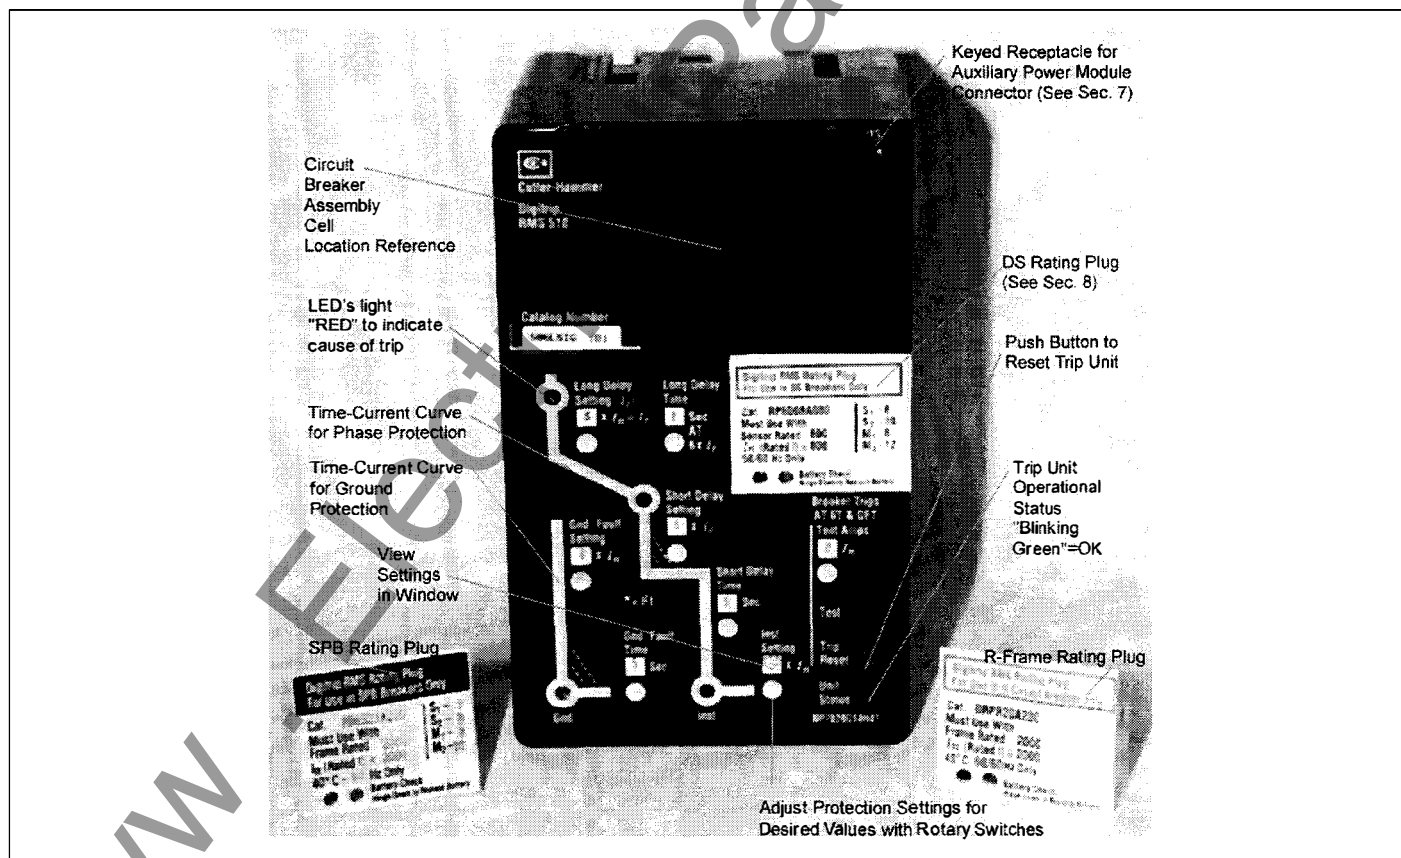
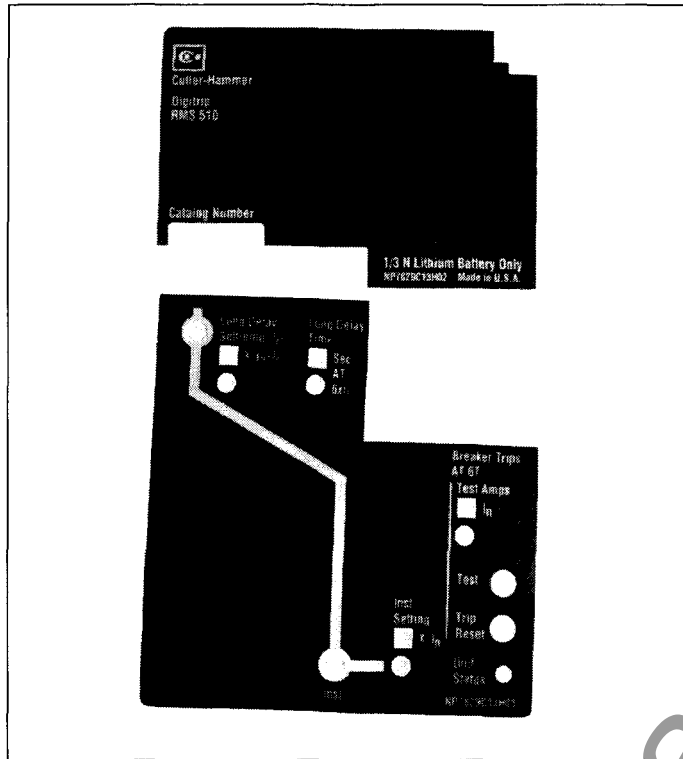
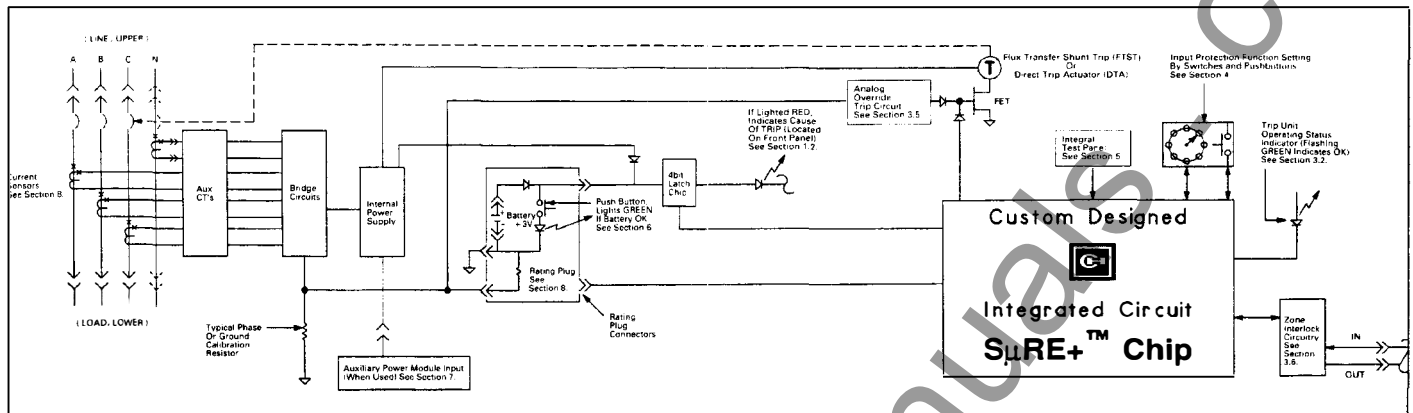
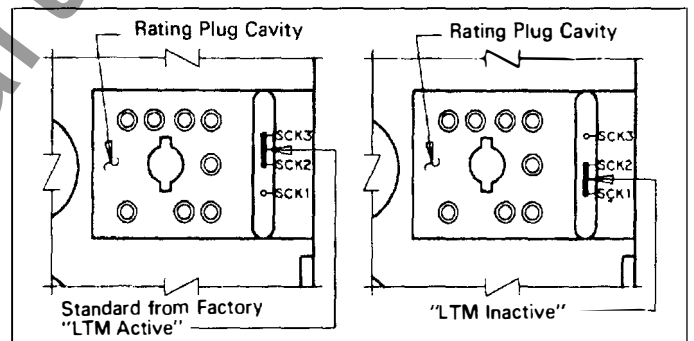

Fig. 1 Digitrip RMS 510 Trip Unit Model LSIG with Rating Plug
Fig. 2.1 Long Time/Instantaneous Protection (LI)
Fig. 3 Digitrip RMS 510 Block Diagram with Breaker Interface
Fig. 4.2.1 Long Time Memory "LTM" Jumper
The Digitrip RMS 510, illustrated in Fig. 1, is a custom application specific integrated circuit based trip unit suitable for use in types DS and DSL low voltage AC power circuit breakers and type SPB Systems Pow-R circuit breakers and Series C[®] R-Frame molded case circuit breakers.
The Digitrip RMS 510 Trip Unit is available in six different types. Each trip unit may be equipped with a maximum of five phase and two ground (time-current) adjustments to meet specific application requirements. The types of protection available for each model include the following, which are illustrated in Figures 2.1 through 2.6:
The Digitrip RMS 510 Trip unit provides three basic functions: Protection, Information and Testing. A typical trip unit and rating plug are illustrated in Fig. 1. Individual product instruction leaflets referenced in Section 9.0 illustrate typical Digitrip RMS Trip Units installed in specific breakers.
The trip unit employs the Cutler-Hammer Inc. custom designed integrated circuit S_μRE + chip, which includes a microcomputer to perform its numeric and logic functions. The principle of operation is described by the block diagram shown in Fig. 3.
The LEDs, shown in Figs. 1 and 2.1-2.6, on the face of the trip unit, light "RED" to indicate the reason for any automatic trip operation. As indicated in Figs. 2.1-2.6, each LED is strategically located in the related segment of the time-current curve depicted on the face of the trip unit. The reason for trip is identified by the segment of the time-current curve where the LED is lighted "RED". Following an automatic trip operation, the back-up battery, continues to supply power to the LEDs as indicated in Figs. 3 and 6. To check the status of the battery, see Section 6.
Push the "Trip Reset" button shown in Fig. 1, to turn "Off" the LEDs following a trip operation.
A green colored LED, as shown in Fig. 1, indicates the operational status of the trip unit. Once the load current through the circuit breaker exceeds approximately 10% of the frame/current sensor rating, the green LED will flash "On" and "Off" once each second, to indicate the trip unit is energized and operating properly.
Zone Selective Interlocking (or Zone Interlocking) is available (see Fig. 3) for Digitrip RMS Trip Units having Short Delay and/or Ground Fault protection. Zone Selective Interlocking provides the fastest possible tripping for faults within the breaker's zone of protection, and yet also provides positive coordination among all breakers in the system (mains, ties, feeders and downstream breakers) to limit the outage to the affected part of the system only. When Zone Interlocking is enabled, a fault within the breaker's zone of protection will cause the RMS DIGITRIP trip unit to:
Prior to placing circuit breaker in operation, each trip unit protection setting must be set to the values specified by the engineer responsible for the installation. The number of settings that must be made is determined by the protector model supplied as illustrated in Figs. 2.1 through 2.6. Each setting is made with a rotary switch, using a small screwdriver. The selected setting for each adjustment appears in its respective rectangular viewing window as illustrated in Fig. 1.
In certain applications it may be desirable to disable the LTM function. The LTM function can be disabled by (first opening the breaker and then) removing the Rating Plug (See Figures 1 and 6), and lastly moving the LTM jumper (inside the rating plug cavity, See figure 4.2.1) to its "INACTIVE" connection. (You can enable the LTM function again any time you wish by moving the LTM jumper back to its original "ACTIVE" connection.)
- 2) There is a condition under which the Long Delay Trip LED can erroneously indicate a LDT has occurred, even though the breaker is still closed. This can happen when an overload current momentarily exceeds the Long Delay Current Setting, I_r , so that the Long Delay LED flashes "RED" to indicate the overload condition. Then if, at the very moment when the LED is "ON", the load current would then suddenly drop to a value less than 10% of the breaker frame (or current sensor) rating, the trip unit stops functioning while the "4bit Latch Chip" (See Fig. 3) is set and the LED remains Lighted. If the current would again increase to a value above the Long Delay Current Setting, I_r , and then return to normal, the
LDT will reset itself. You can of course, manually clear the LDT (or any other trip indication) at any time, by pushing the "PUSH to RESET" button. (See Figure 1.)